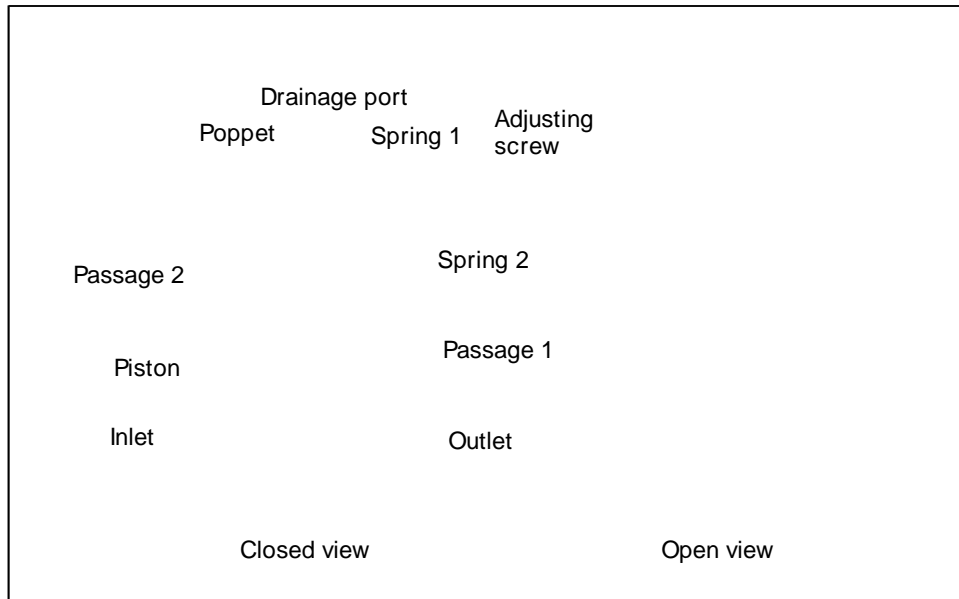

Figure 2-2. Compound pressure-relief valve
a. A compound pressure-relief valve has a poppet and a spring to adjust fluid flow (Figure 2-2). The closed view in Figure 2-2 shows that passage 1 is used to maintain the hydraulic balance in the piston when the valve's inlet pressure is less than the pressure setting. The valve setting is determined by the thrust of the adjusting spring against the poppet. When the pressure at the valve inlet reaches the valve setting, the pressure in passage 2 rises to overcome the thrust of spring 1. When the flow through passage 1 creates sufficient pressure drop to overcome the thrust of spring 2, the piston rises off its seat as shown in the open view. This allows hydraulic fluid or oil to pass through the drainage port to the reservoir and prevents any further increase in pressure.